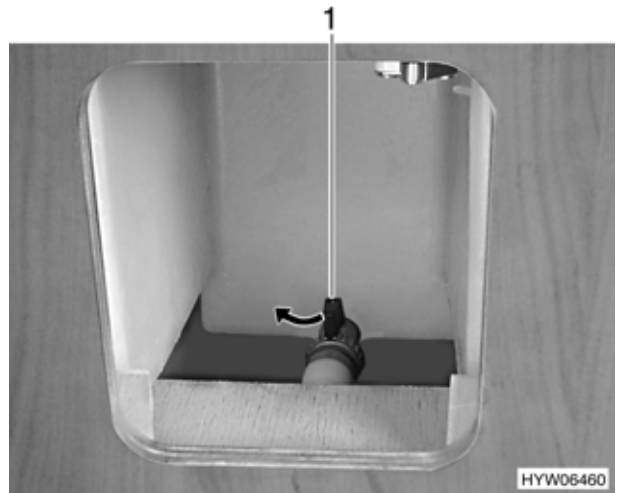

Fig. 146 Fresh water tank, water drain cock, open (variant 2)
**Variant 2 (Fig. 146):**
- Turn water drain cock (Fig. 146,1) in the direction indicated to close.
#### Variant 2 (Fig. 146):
- Open water drain cock (Fig. 146,1).